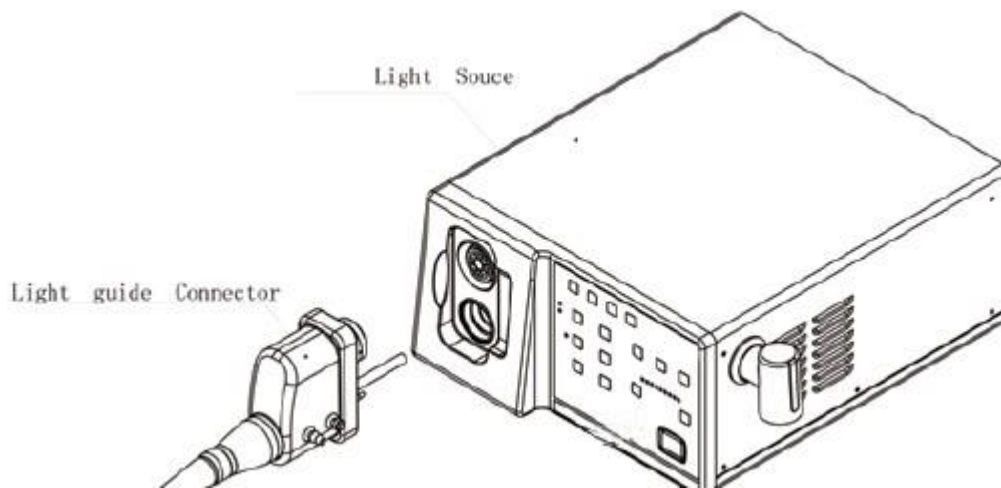

Figure 3.2
5. Insert the light guide connector into the scope socket on the front panel of the light source until it clicks into place (see Figure 3.2).